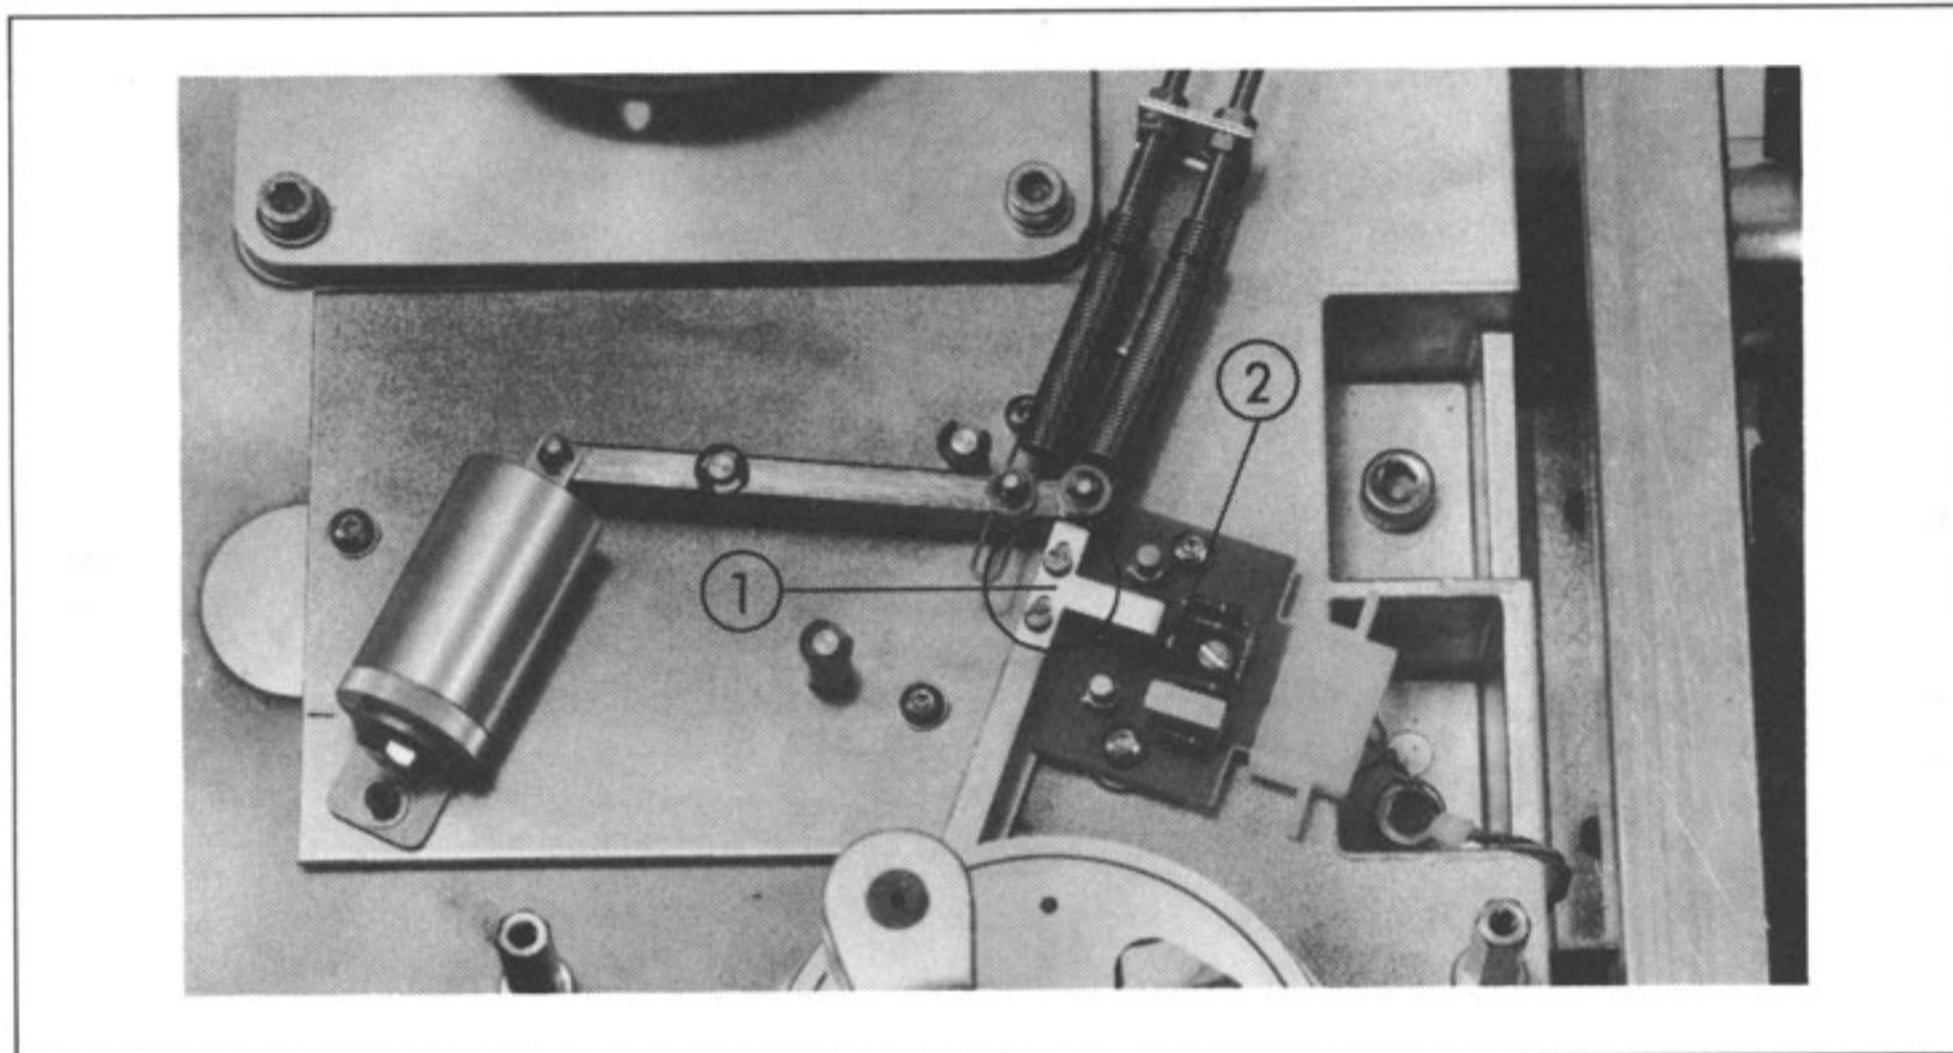

Fig. 3.6.21
When the tape tension sensor is in its neutral position, the switch lug (1) should be plunged all the way into the light barrier (2) (see Fig. 3.6.21).